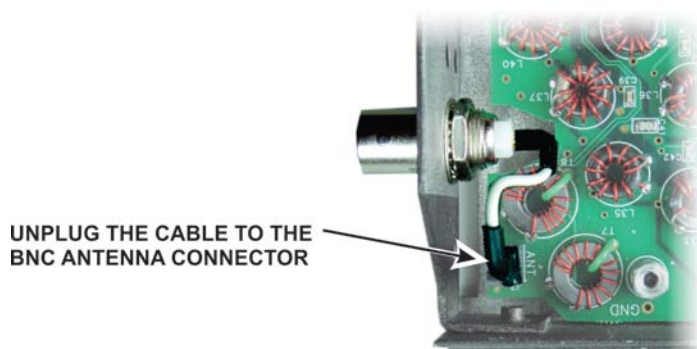

Figure 2. Disconnecting the Cable to the Antenna BNC.
- Unplug the cable to the BNC antenna connector from J7 on the KX3 RF board (see Figure 2)